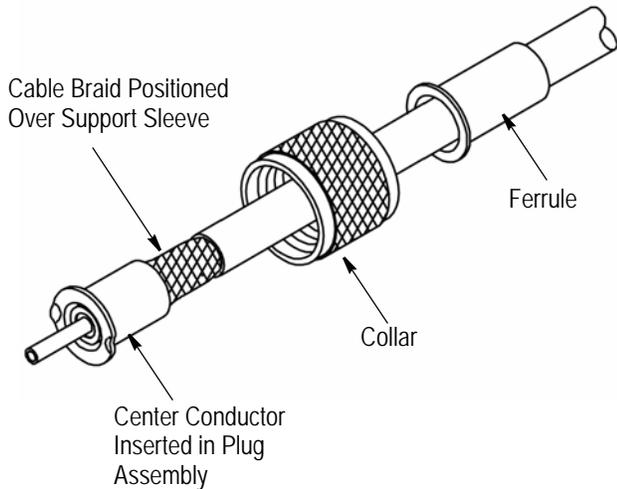

Figure 3
2. Flare cable braid. Insert center conductor into plug assembly, making sure that the cable braid is positioned over the support sleeve of the plug assembly. See Figure 3.